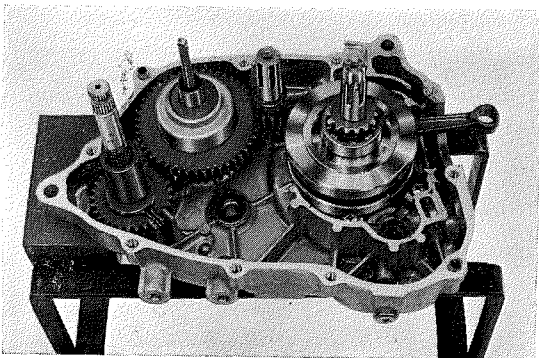

Fig. 51
6. The kick starter and spindle, main shaft and counter shaft gear assembly can be removed from the left crankcase. (Fig. 51)